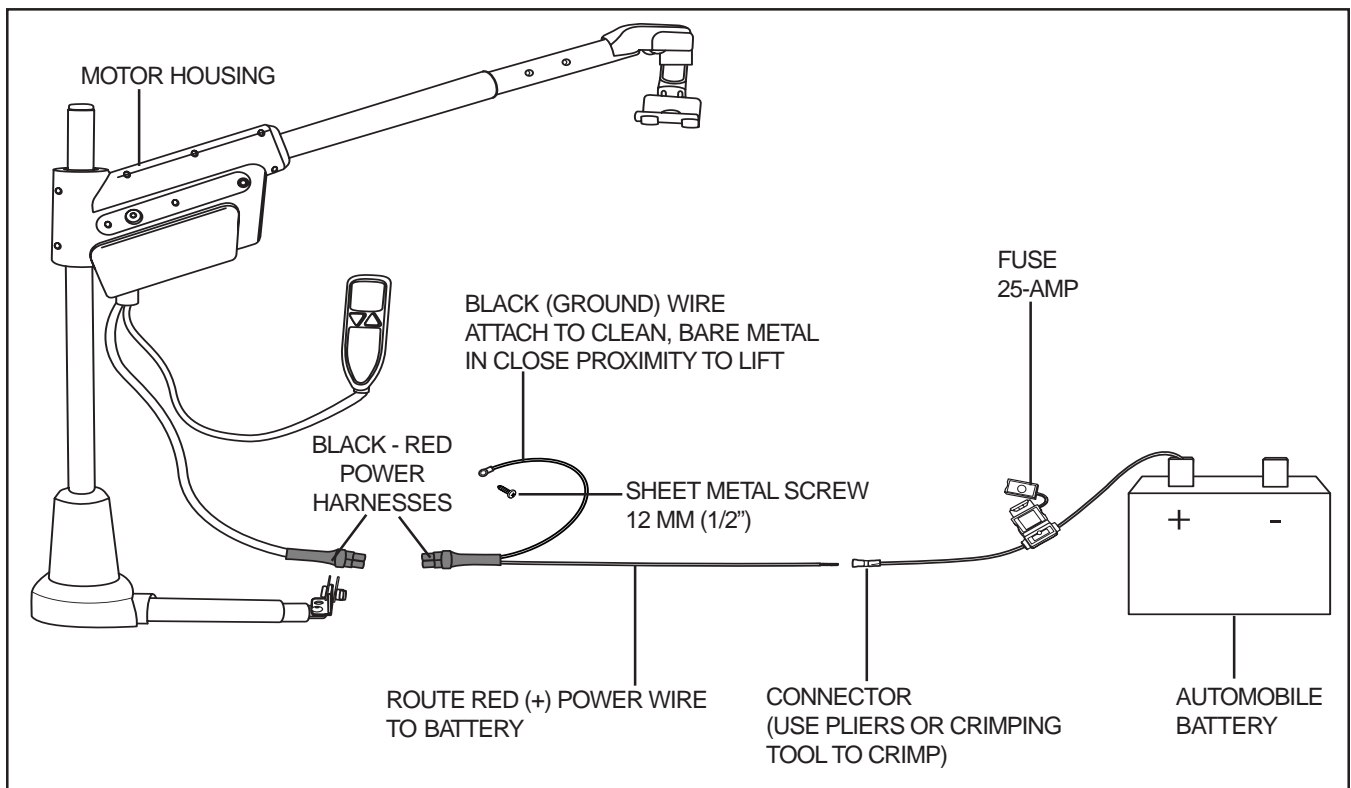

Figure 12. Electrical Wiring Connections
1. Route the lift's long red positive (+) power wire (starting at the lift) through the interior of the vehicle until you reach the automobile battery. **See figure 12.** Conceal the wire behind or under the interior panels (there should be existing holes). Be certain that the wire is protected with a rubber grommet when passing it through the metal panels and into the engine compartment. Inside the engine compartment, secure the wire to the firewall and the inner fender with the supplied plastic wire ties. Use care not to cause abrasions to the power wire. It is important to secure the power wire at various points along its run.
NOTE: *If installed in a trunk, disconnect the black-red power harness (see figure 12) and remove the motor housing and upper post and place it in an area where it will be secure. The height of the boom arm will not allow the trunk to close.*